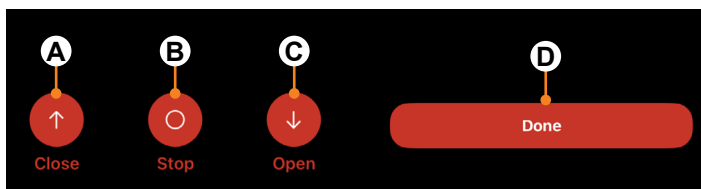

Fig.86
13. Follow the pop up prompt's instructions and hold the “Stop” (horizontal line) button on the remote (Fig. 75B) until the app displays “Pairing Successful.” The app will prompt you to test the awning, and the “Control Testing” screen (Fig. 86) will appear.